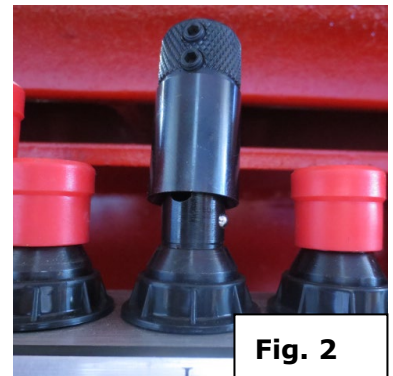

Fig. 2
- Slide the shaft of the chuck on the drill spindle. Fig. 2
3. Push the chuck all the way down onto the spindle. See Fig. 2. Rotate the chuck right and left while pushing it down, to make sure it properly engages the spindle, and is fully seated, as shown in Fig. 3. (The roll pin inside the chuck should slide into the notch in the spindle)